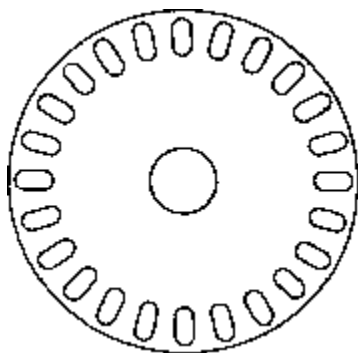

Figure 11
- general purpose motor - figure 11;